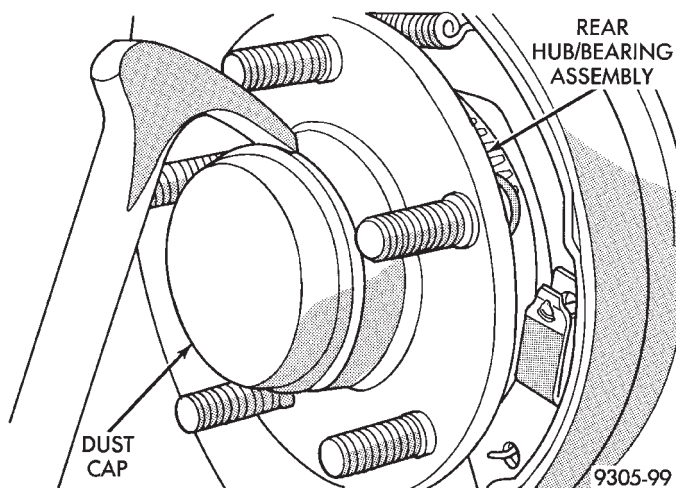

Fig. 134 Hub/Bearing Dust Cap
(1) Raise vehicle using a frame contact type hoist or correctly jack up the vehicle and support it using jack stands. See Hoisting in the Lubrication And Maintenance Group of this service manual for the required lifting procedures to be used for this vehicle.
(2) Remove the rear wheel and tire assembly from the side of the vehicle requiring service to the park brake cable.
(3) Remove rear disc brake caliper from adapter and rotor. Then remove the rotor from the hub.
(4) Remove dust cap from rear hub/bearing assembly (Fig. 134).